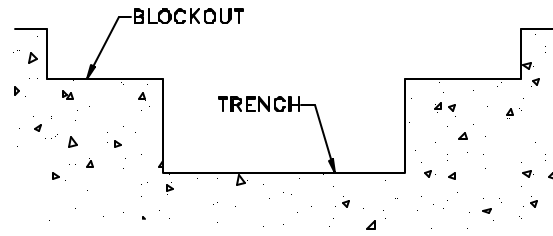

Figure 1
STEP 2. If the system is to be installed into a blockout, prepare the blockout in accordance with standard industry practices and all applicable requirements (see Figure 1). Ensure that each blockout surface is at the proper elevation and that it is even, level, straight, and the proper dimensions. Proceed directly to Step 12.